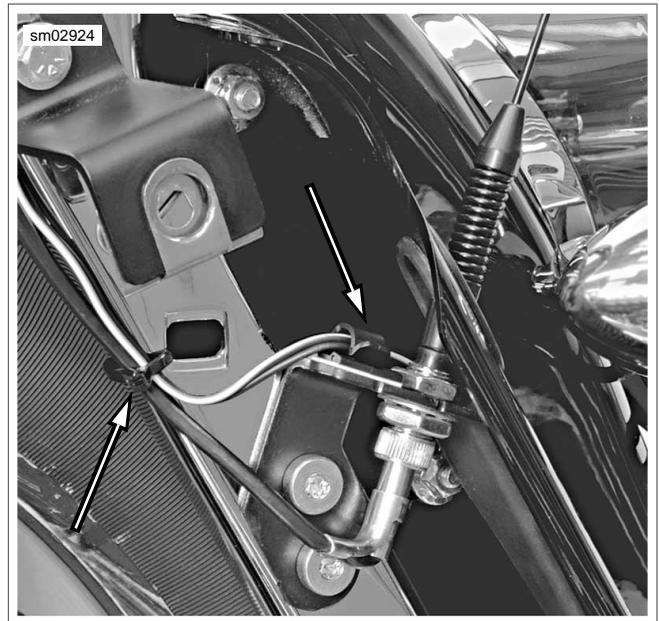

Figure 2-173. Capture Rear Facia Lamp Wires
4. Release rear fascia lamp wires from cable clip at top of radio antenna bracket. See Figure 2-173.
3. Using slotted hole, install **new** cable strap to secure rear facia lamp wires and radio antenna cable to rear fender support. See Figure 2-173.